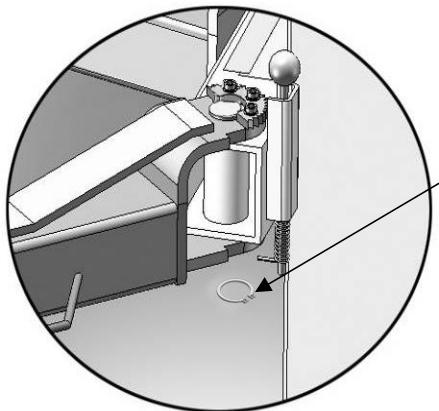

Fig. 25
1. After installing the lifting arms (See Fig.25).